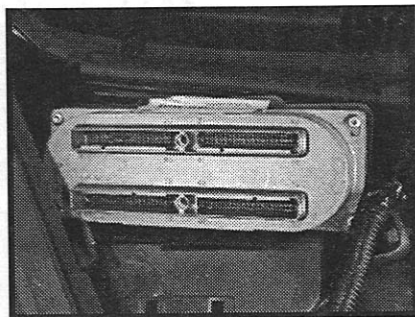

Figure 6
6. Install the JET PCM onto the ECM (computer) (see Fig. 6).